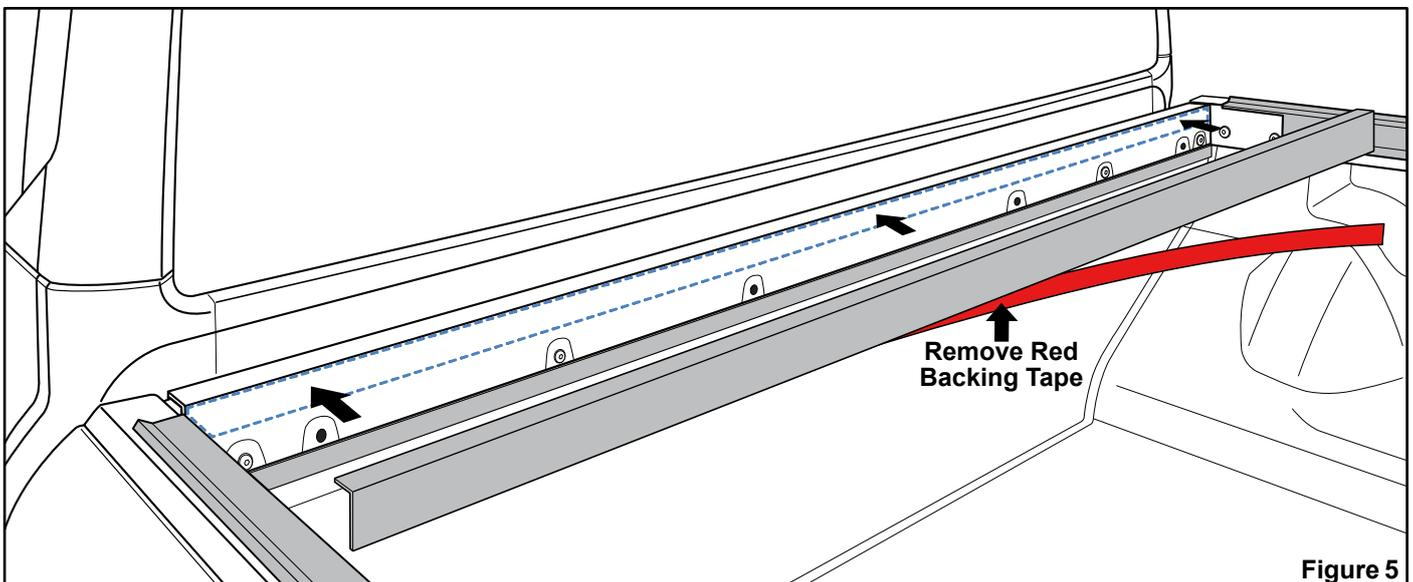

Figure 5
- Wipe the dotted section shown in Figure 5 with Surface Cleaning Alcohol Wipe.